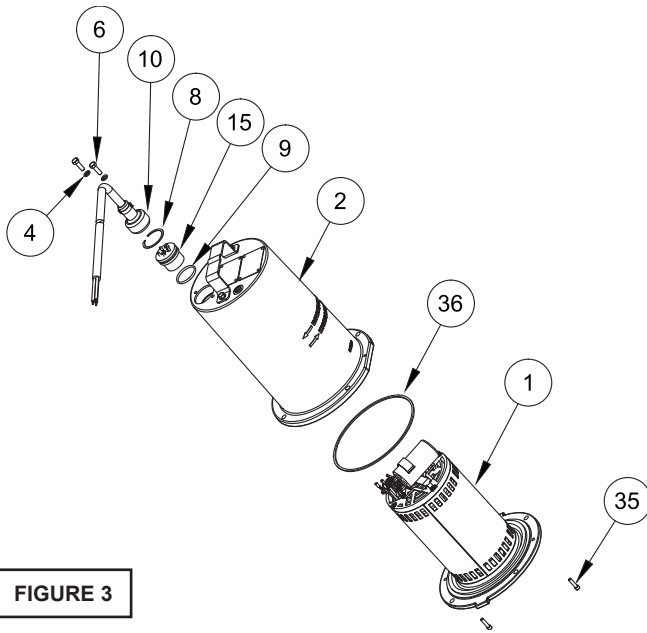

FIGURE 3
To examine or replace the motor (1), bearing (39) and shaft seal (38), drain oil from motor as outlined in paragraph F-1.2. Disassemble volute and impeller as outlined in paragraph F-2.1. (See Figure 3, 4, and 5) Position unit upright, using blocks to avoid resting unit on shaft. Unscrew cord hex bolts (4) and remove compression flange (10a) and power cord (10). Remove snap ring (8) with a flat head screwdriver. Pull the terminal block (15) out of the motor housing (2) using a T-bolt or pair of pliers and a .25-20 screw in the threads of the terminal block (15). Be sure to leave slack on the motor leads connected underneath. Use needle nose pliers to pull each female connector off of the pins on the underside of the terminal block (15) (see Figure 8). The unit voltage should be noted. Remove socket head cap screws (35). Vertically lift upper pump assembly from seal plate (24) by lifting handle (7). Inspect square ring (36) for damage or cuts.
**Motor** - Remove the motor bolts and lift motor stator from seal plate (24). Disconnect capacitor leads from capacitor (3, 1 phase units).